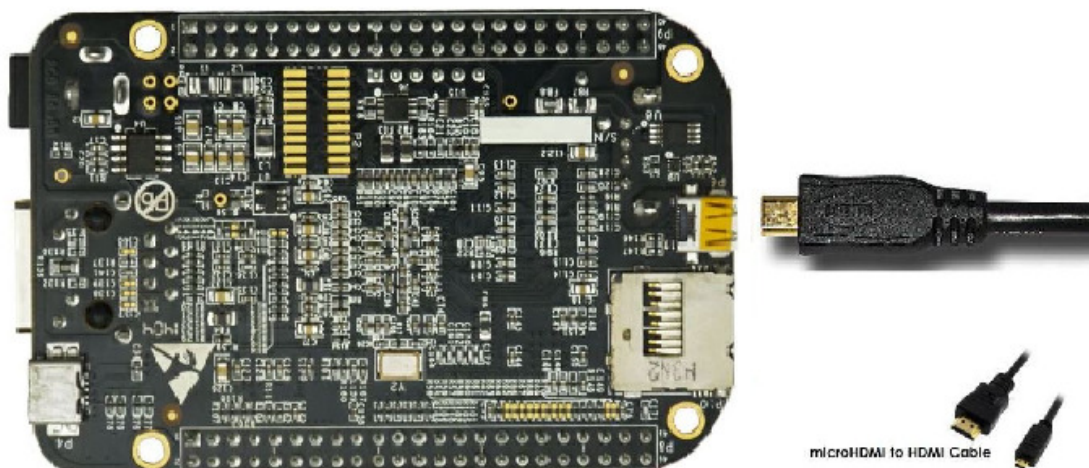

Figure 14 Connect microHDMI Cable to the Board
5. The cable needed to connect to your display is a microHDMI to HDMI. Connect the microHDMI connector end to the board at this time. The connector is on the bottom side of the board as shown in **Figure 14** below.